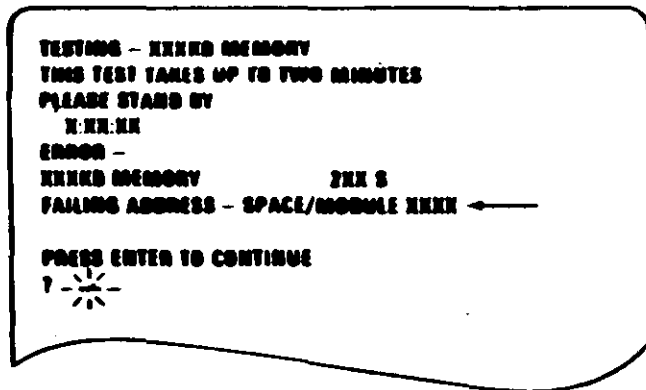

Figure 1. Advanced Diagnostic Error Message
- Note the four-character error code as shown in Figure 1. You will need it for the next steps.